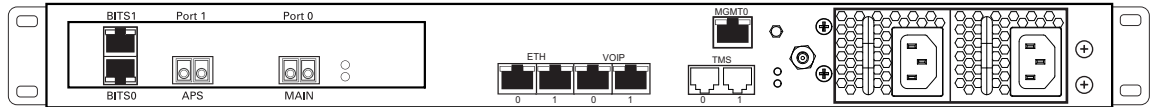

Figure 4.7 Optical Interface to the PSTN
A TMG7800-STM1, with one main and one backup APS OC3 or STM1 port enables connection to OC3/STM1 lines. See figure 4.7 on page 32. The APS port is used for OC3/STM1 redundancy. Switchover occurs automatically based on configurable parameters. It is recommended that APS be used if the installation provides this feature.
1. Connect a fiber optic cable between the Port 0 (Main) port and OC3/STM1 line, as shown in figure 4.7 on page 32.